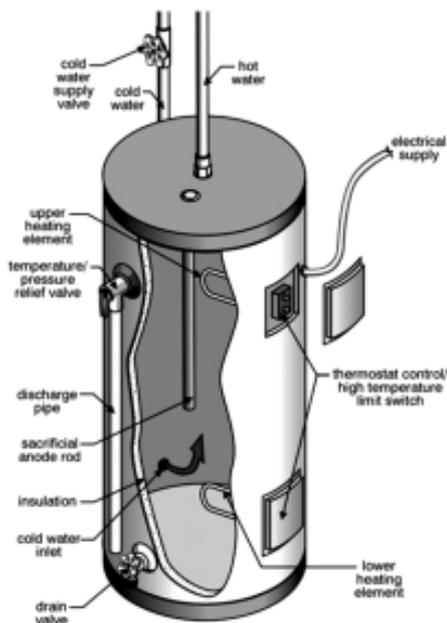

Fig. 10.5 - Full view of storage water heater
**Construction:** The constructional parts of this type of heater are shown in Fig. 10.5 and 10.6.